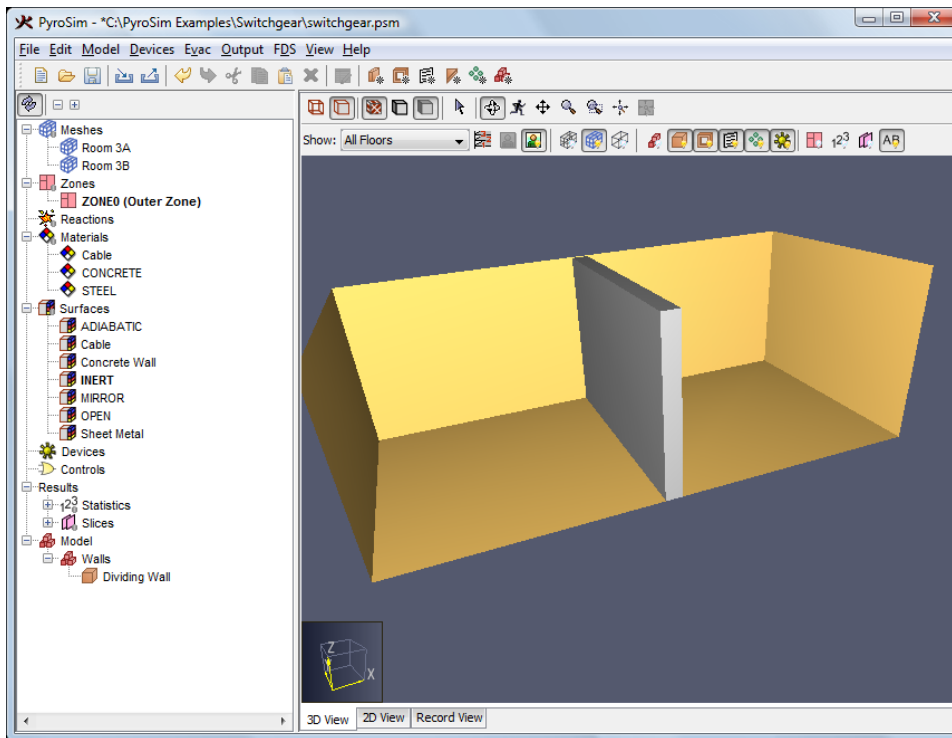

Figure 6.10. Display of the dividing wall
7. In the toolbar, click to turn off the **Show Mesh Divisions** option. The display should now look like Figure 6.10.